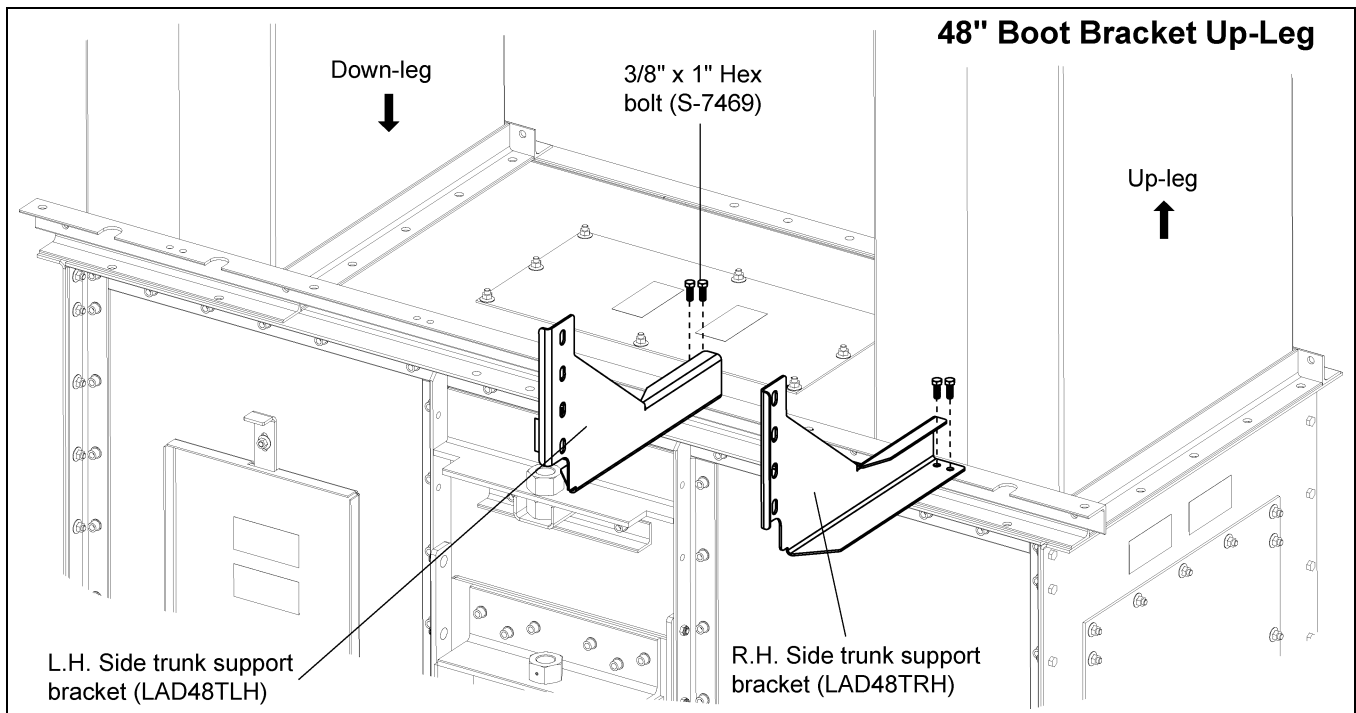

Figure 6F 48" Up-Leg Boot Bracket
4. **48" Up-Leg Boot Brackets:** Use 3/8" x 1" HHCS bolts (S-7469) and 3/8" flange nuts (S-10028) to attach the ladder support brackets (LAD48TRH and LAD48TLH) to the top of the boot tie angle using holes indicated. (See Figure 6F.)